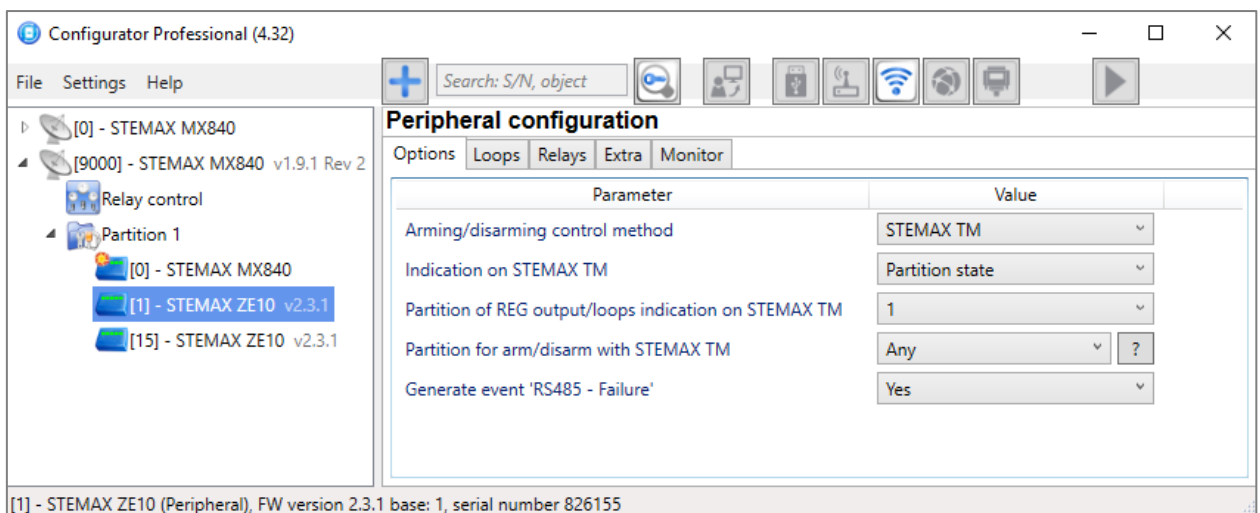

Figure 4.5. Expander configuration, *Options* tab
- *STEMAX TM*: if the STEMAX TM reader with indication module by NPP «Stels» is connected to the expander (see figure 4.5).